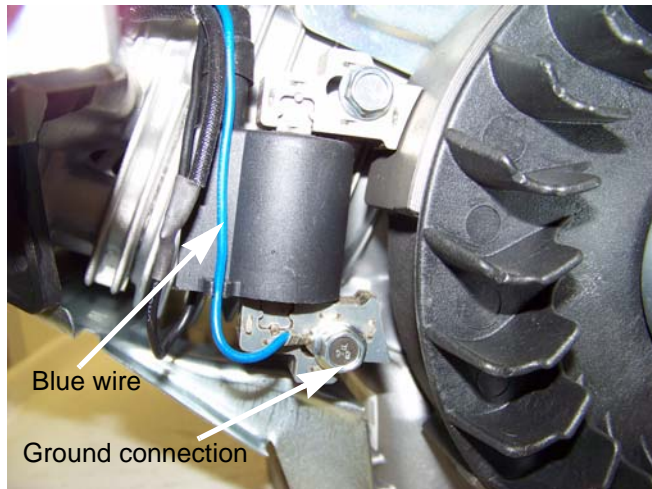

Figure 7.9
- If the multimeter does not show continuity, check the wire for a break and check the ground connection. See Figure 7.9.